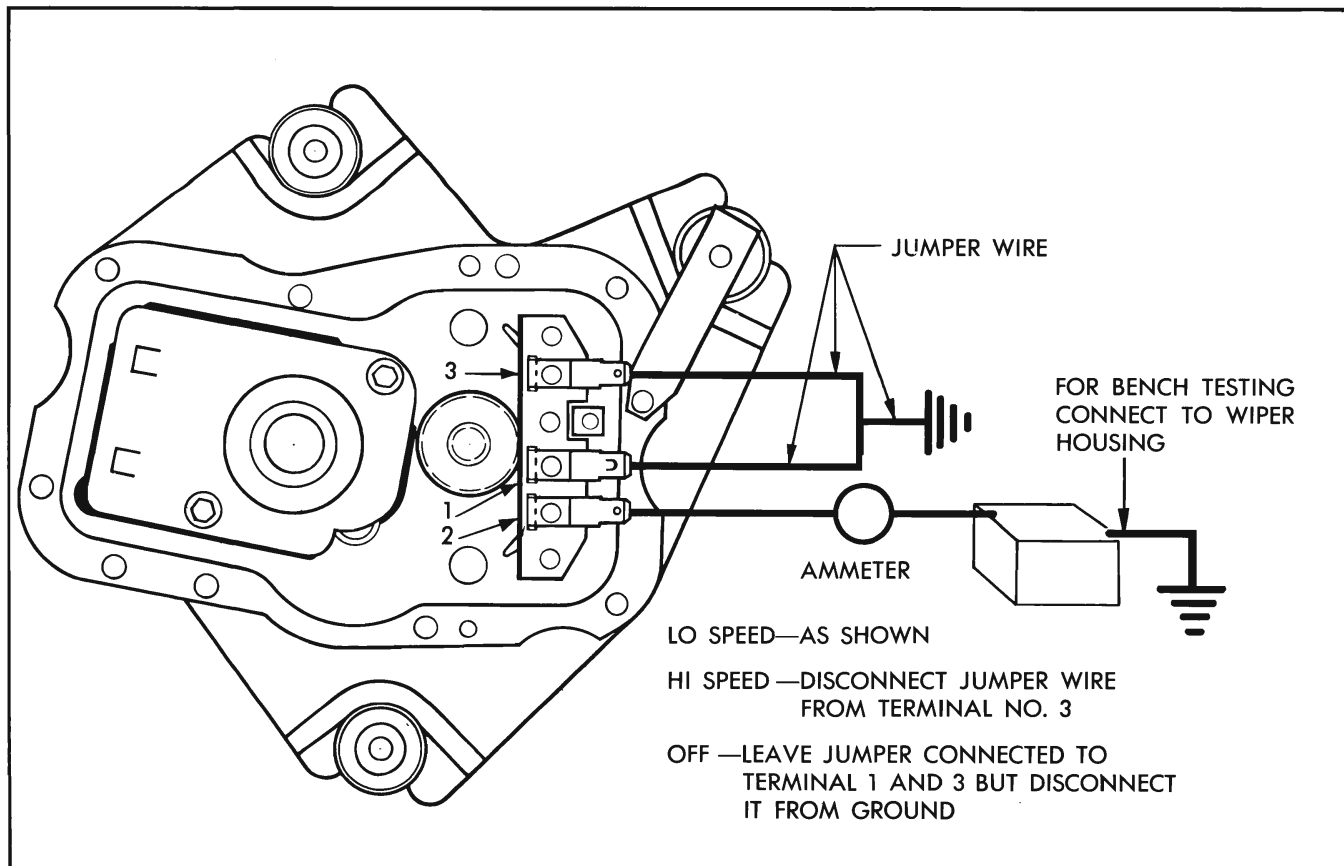

Fig. 11-94 Connections for Testing
Fig. 11-94 illustrates the method of connecting leads to the wiper for either bench operation or to run wiper independently of dash switch and car wiring when installed in car.
2. With ignition switch on, check for 12 volts at harness terminal that connects to number (2) terminal (Figure 11-94).
3. To determine if dash switch or car wiring are at fault, disconnect harness from wiper motor and try operating wiper as shown in Fig. 11-94. If wiper fails to operate, remove body parts as required, disconnect transmissions from wiper crank arm and re-check wiper operation. If wiper still fails to perform correctly, remove wiper from car and check wiper ac-
2. Disconnect wiring harness from wiper motor and try operating wiper independently of dash switch as shown in Fig. 11-94.
It is assumed that in many cases there is no information available to the repairman about the original wiper complaint. It is necessary, therefore, that wiper operation be checked according to the instructions shown in Fig. 11-94. IMPORTANT—Be sure and use an ammeter capable of reading at least 30 amperes in the feed wire circuit.